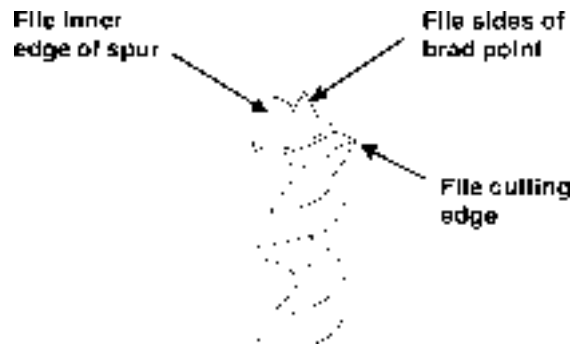

FIGURE 8
1. Sharpen the bit by using a small, smooth file, following the original shape of the bit. File the inside edge of the spur, the sides of the brad point, and the cutting edge inwards toward the flute of the bit. See Figure 8.